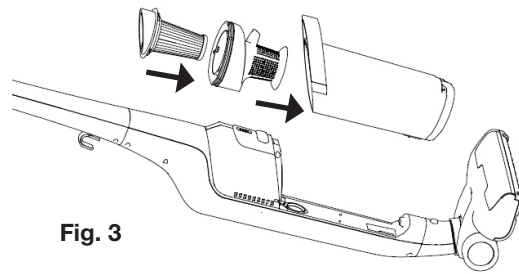

Fig. 3
3. Insert the EPA filter (9) into the notches in the filter unit (10) and gently rotate in a clockwise direction until it locks into place (see figure 3).
4. Insert the filter unit (10) into the dust collector (12) (fig. 3).